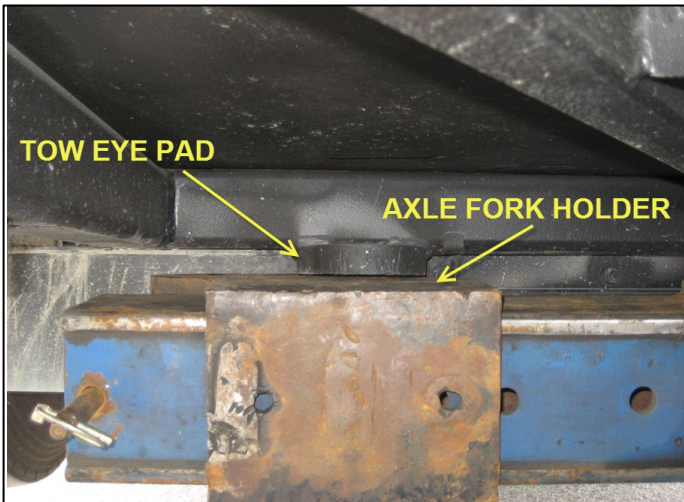

FIGURE 32
- 3. Deploy the tow truck stinger arm, placing the axle fork holders under the tow eye pads (Figure 32).